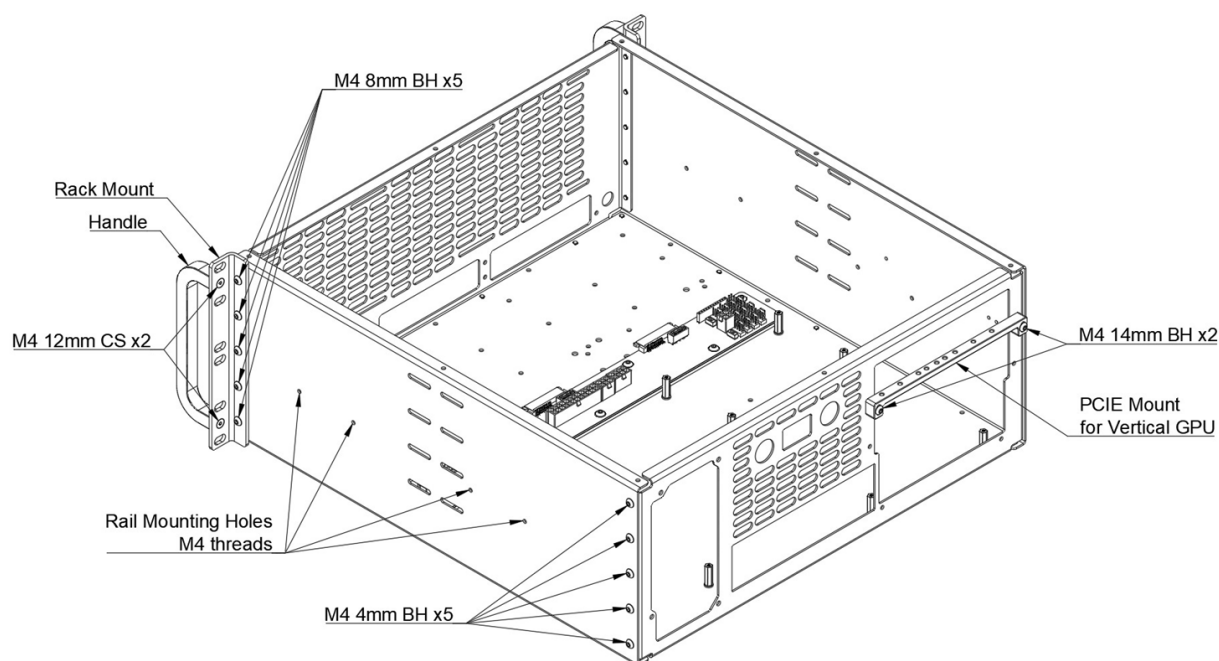

Figure 2
- Step 4: Install the PCIe Mount in the top position on the rear panel and secure it with M4 14mm BH x2 according to *Figure 2*, or if a Horizontal GPU Mounting kit is used with a riser cable, then go to Step 5 instead.